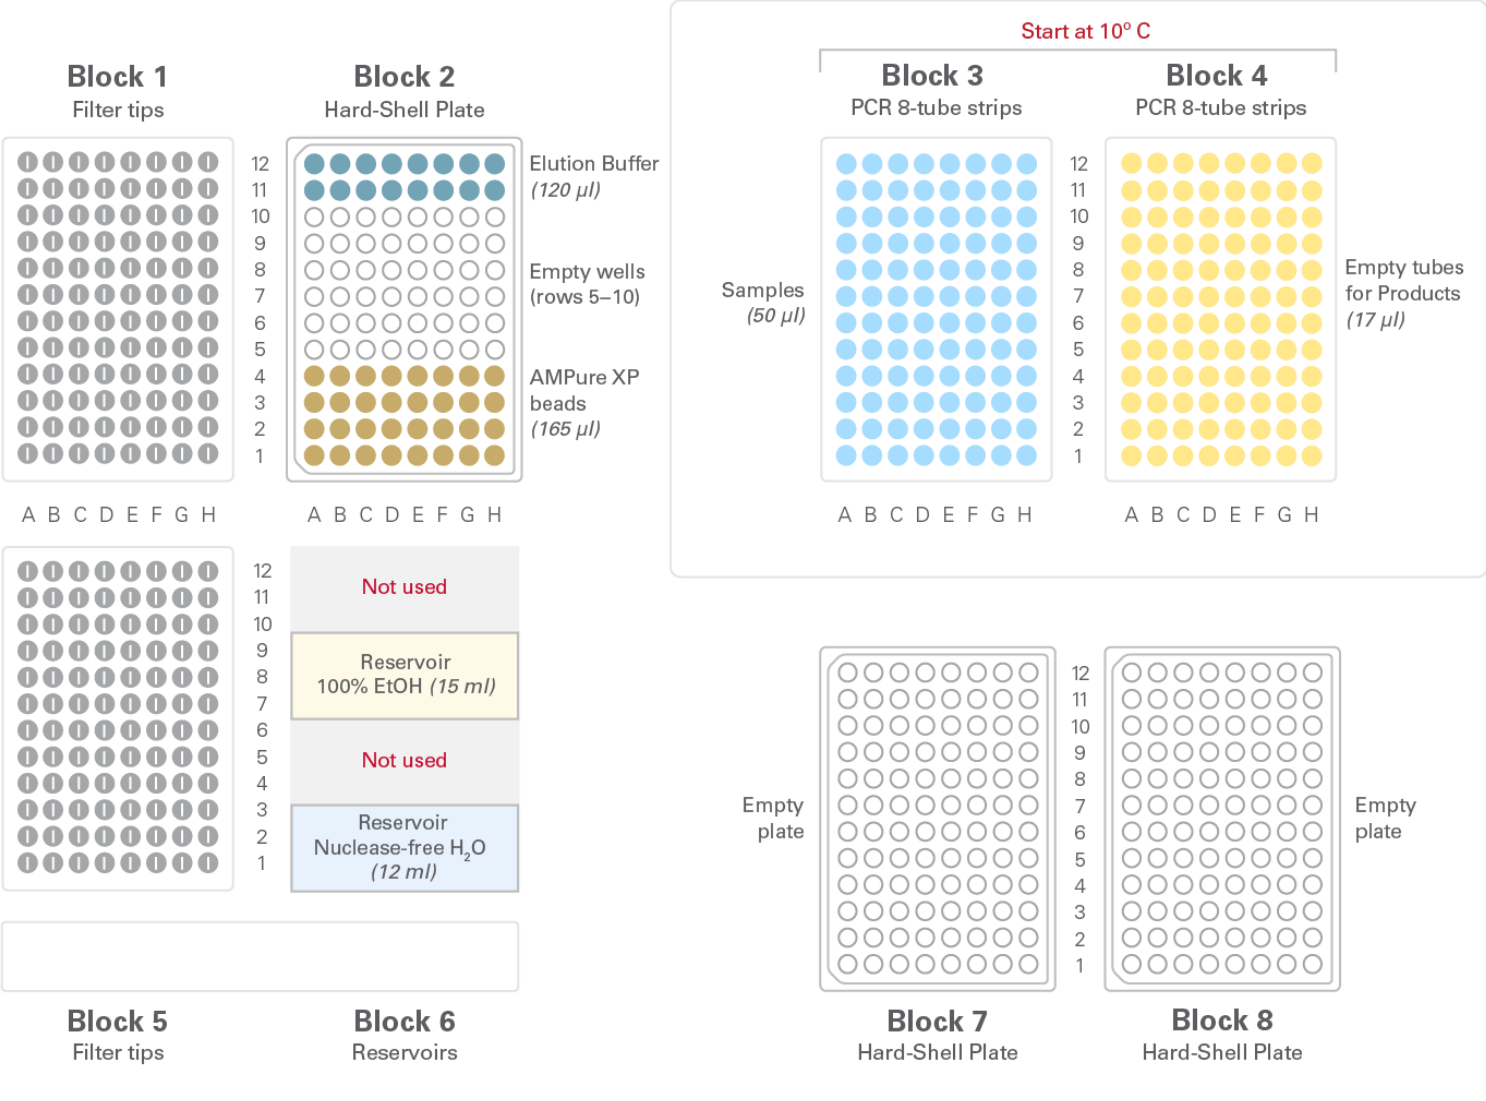

Figure 10. Deck layout for PCR cleanup from 96 samples. For this protocol, use script SSv4_4_PCRcleanup_96_v1-1.scb. Run time is 2.5 hr.
4. Load consumables onto the Apollo work surface (see Figure 10 or 11). First, load the consumables that do not initially hold reagents. Next, on the benchtop, aliquot reagents and samples into the indicated consumables according to the table below. Load them onto the system just before the run.